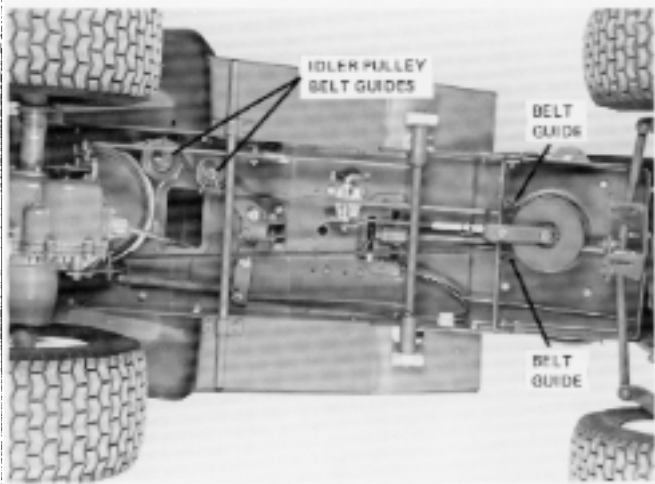

Fig. 5-1 B-Series Belt Routing and Linkage
To adjust the belt guides, loosen the nuts holding the guides and move the guides to positions shown in Fig. 5-1. Tighten nuts securely.
14. Release the clutch, check belt alignment, and set belt guides as shown in Fig. 5-1.